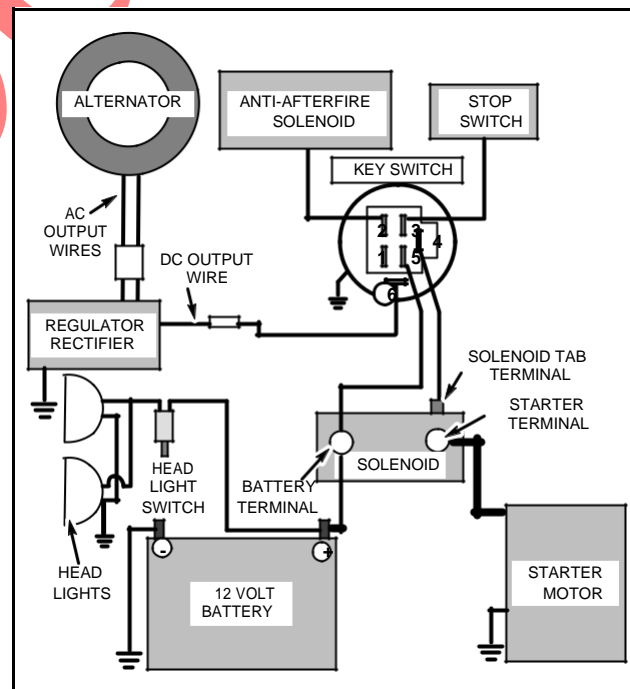

Fig. 41 – Typical 12 V Wiring Diagram
1. Before installing battery, connect all equipment to be operated, Fig. 41.